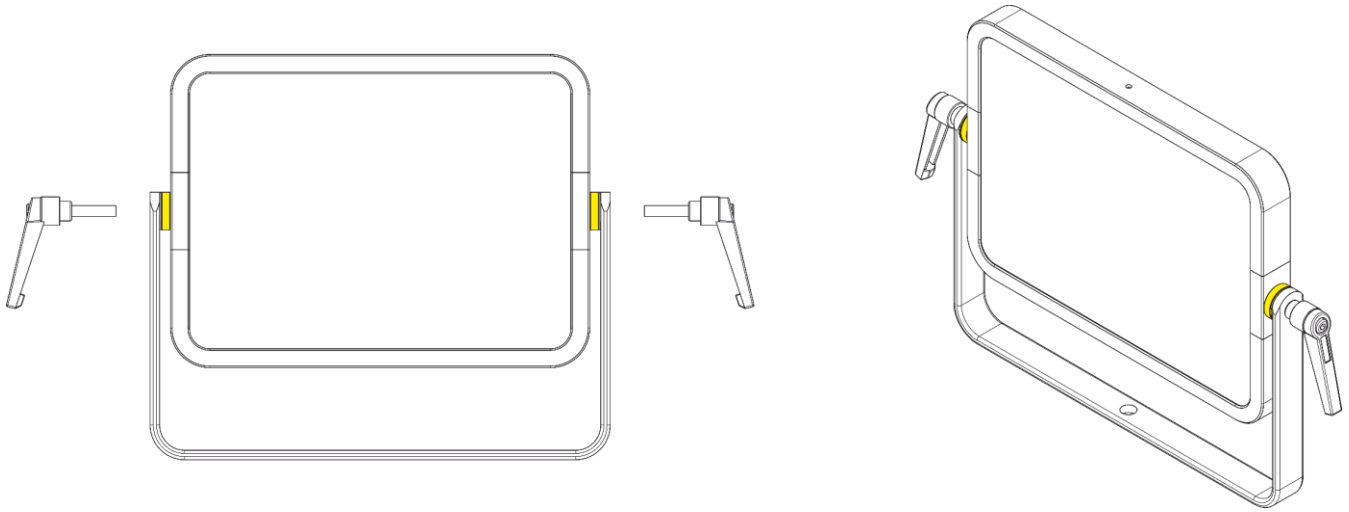

Fig. 11
- 02) Install all elements as shown in Fig. 11.